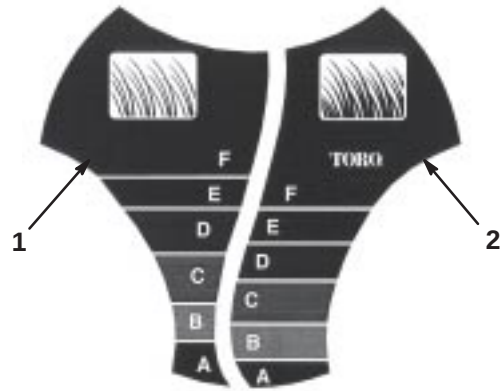

Figure 12
The *SmartWheel*™ has 2 cutting scales: *Sparse/Normal* and *Lush*—to ensure the best cutting height setting in any mowing condition (Fig. 12). Use the *Sparse/Normal* scale during the warm summer season for the majority of your mowing. The *Lush* scale is for thick, moist, and succulent grass that grows most often in the spring.
2. Move the lawn mower into the grass; stop moving the lawn mower when the *SmartWheel* design on one of the rear wheels is upright (Fig. 12).